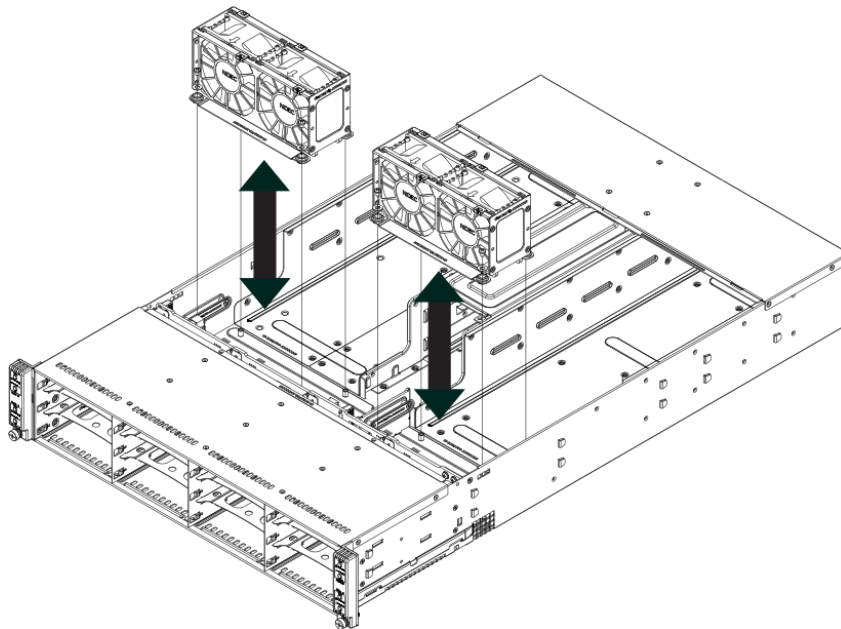

Figure 5-8 Removing Fan Housing from Chassis
3. Lift the fan housing up and out of the chassis as shown in Figure 5-8.